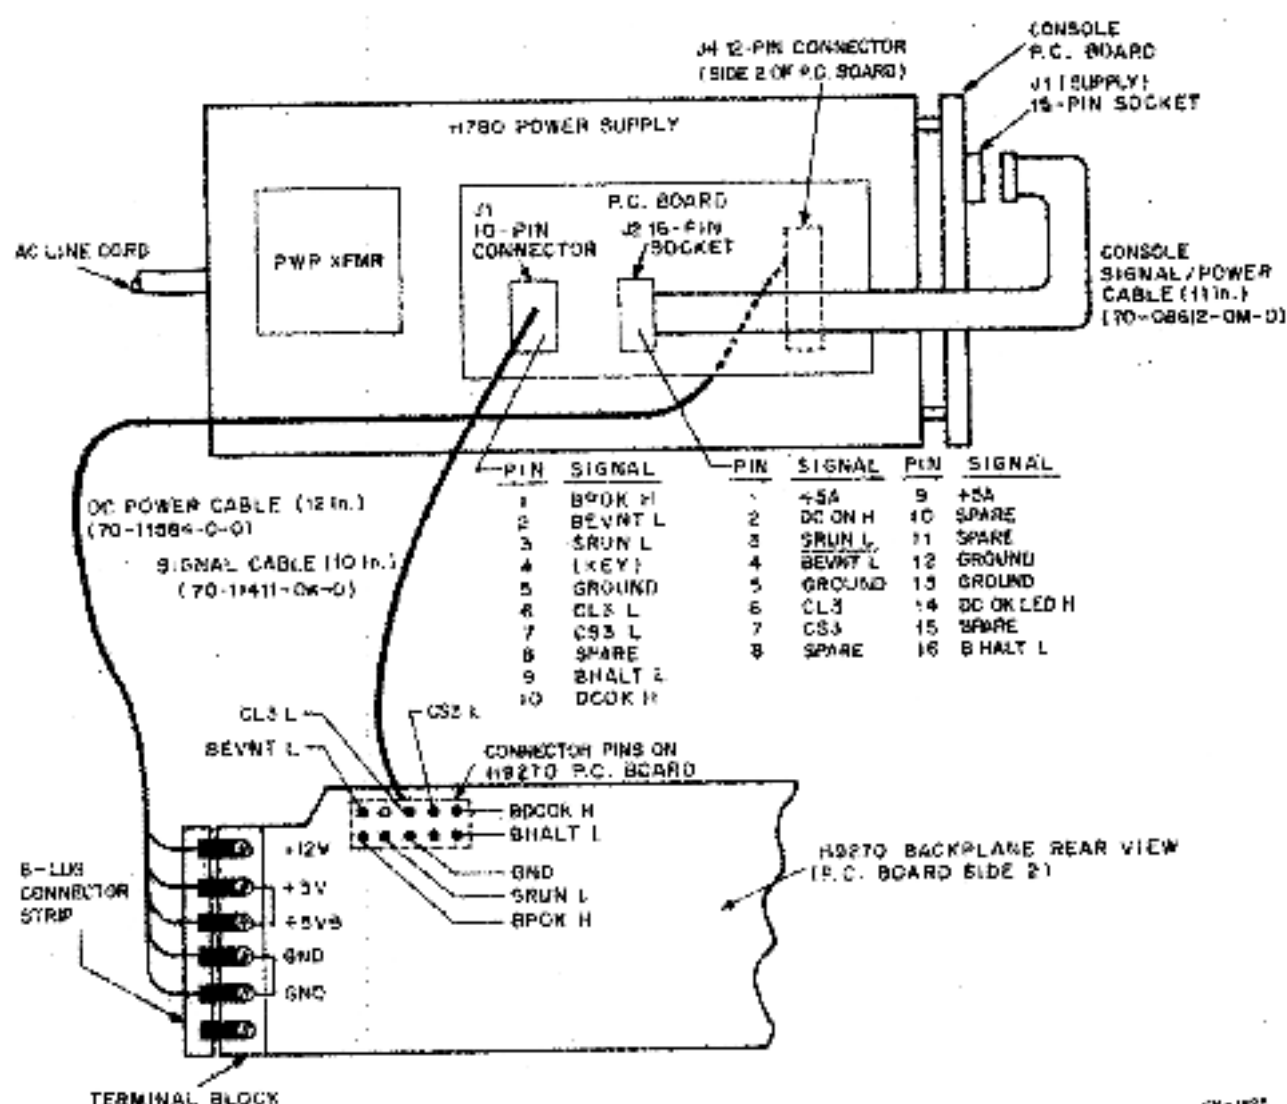
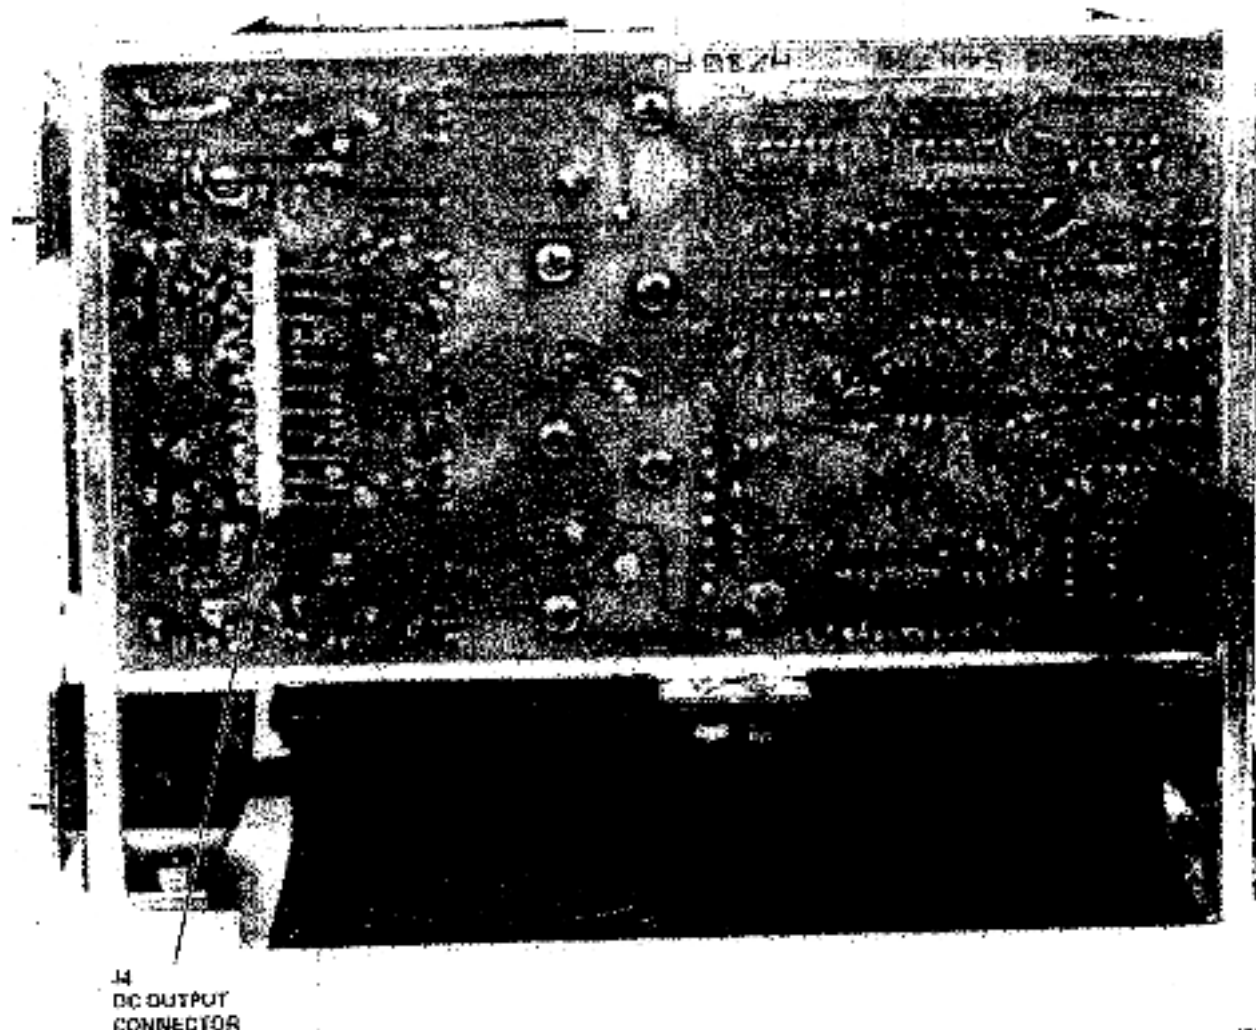
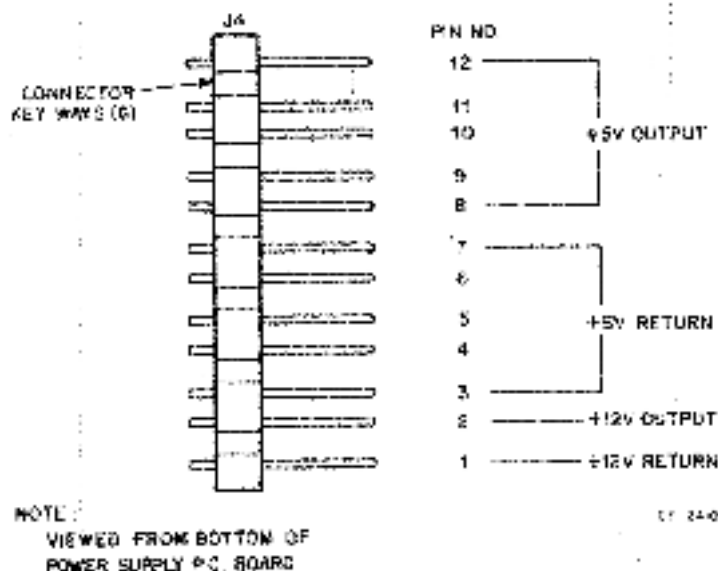

Figure 2-8 H780 to H9270 Backplane Connections
Figure 2-9 Location of H780 DC Output Connector (J4)
Figure 2-10 Pinning for H780 DC Output Connector (J4)
5. Using a DVM, measure the +5 V and +12 Vdc outputs at J4 (Figures 2-9 and 2-10) on the H780 PC board (side 2). The +5 V output should not be greater than +5.15 V and the +12 V output should not exceed +12.36 V. Perform the adjustment procedure in Paragraph 2.8 if the outputs are out of tolerance.
The H780 power supply is connected to the H9270 by means of two cables. These cables are supplied with the H780 (refer to Paragraph 2.5). One of these cables is a 10 inch logic signal cable (DEC part number 70-11411-0K-0) which connects from J1 on the power supply board (Figure 2-4) to connector pins on the H9270 printed circuit board (Figure 2-8). Either end of this cable can be connected to the power supply or the backplane. The other cable is a 12 inch dc output cable (DEC part number 70-11584-0-0). This cable is terminated at one end with a keyed, 12-pin connector which mates with J4 on side 2 of the H780 power supply board. Figure 2-9 shows the location of J4; Figure 2-10 shows J4 pinning. The remaining end of the dc output cable is terminated with a 6-lug connector strip which is connected to the H9270 backplane terminal block, as shown in Figure 2-8. When connecting the 6-lug connector strip to the H9270 backplane, make sure that the spade lug connectors are facing up. Figure 2-11 shows the dc output cable connected to J4 of the H780. The H780 logic signal and dc output cables are routed toward the rear of the power supply and exit from the supply chassis next to the H9270 backplane terminal block.
H780-H, -J, -K, and -L power supplies have a console that is attached to the H780 and connected to the supply by means of a console signal/power cable (DEC part number 70-08612-OM-0). This cable is factory-installed from J2 on the power supply board (Figure 2-4) to J1 on the console PC board (refer to Figures 2-8 and 2-12).
(REMOTE) connectors. It is always connected to J2 of the power supply printed circuit board (Figure 2-8) by the console signal/power cable (DFC part number 70-08612-OM-0) which is factory-installed. Pinning for J2 (REMOTE) on the console printed circuit board is shown in Figure 2-13. Pinning for J2 on the power supply printed circuit board is indicated in Figure 2-8.
2. Using a DVM, measure the +12 V output at the LSI-11 or PDP-11/03 backplane terminal block (refer to Figure 2-8).
2. Using a DVM, measure the +5 V output at the LSI-11 or PDP-11/03 backplane terminal block (refer to Figure 2-8).